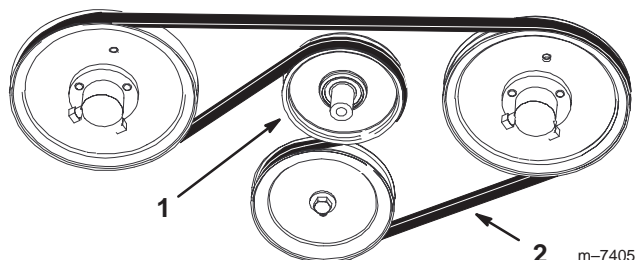

Figure 77
2. Pull the spring loaded idler down and remove the traction belt from the engine and hydro pump pulleys (Fig. 77). Remove the belt between the pulleys.
3. Install the new belt around the engine and hydro pump pulleys (Fig. 77).
4. Pull the spring loaded idler down and align it below the traction belt. Release the pressure on the spring loaded idler (Fig. 77).